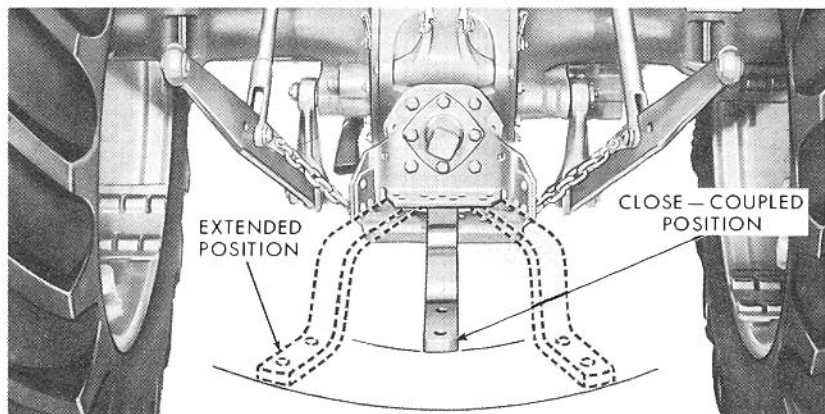

Figure 15
**\*Swinging Drawbar:** The swinging drawbar provided as standard equipment on your Ford Tractor, permits quick, easy attachment of pull type implements. The tractor can be operated with the swinging drawbar in either the "close-coupled" or "extended" positions (see Figure 15). The drawbar may also be set and used in different positions either to the left or right of center (seven in all). When operating with P.T.O. driven equipment, the drawbar should always be in the "extended" position with the offset down.